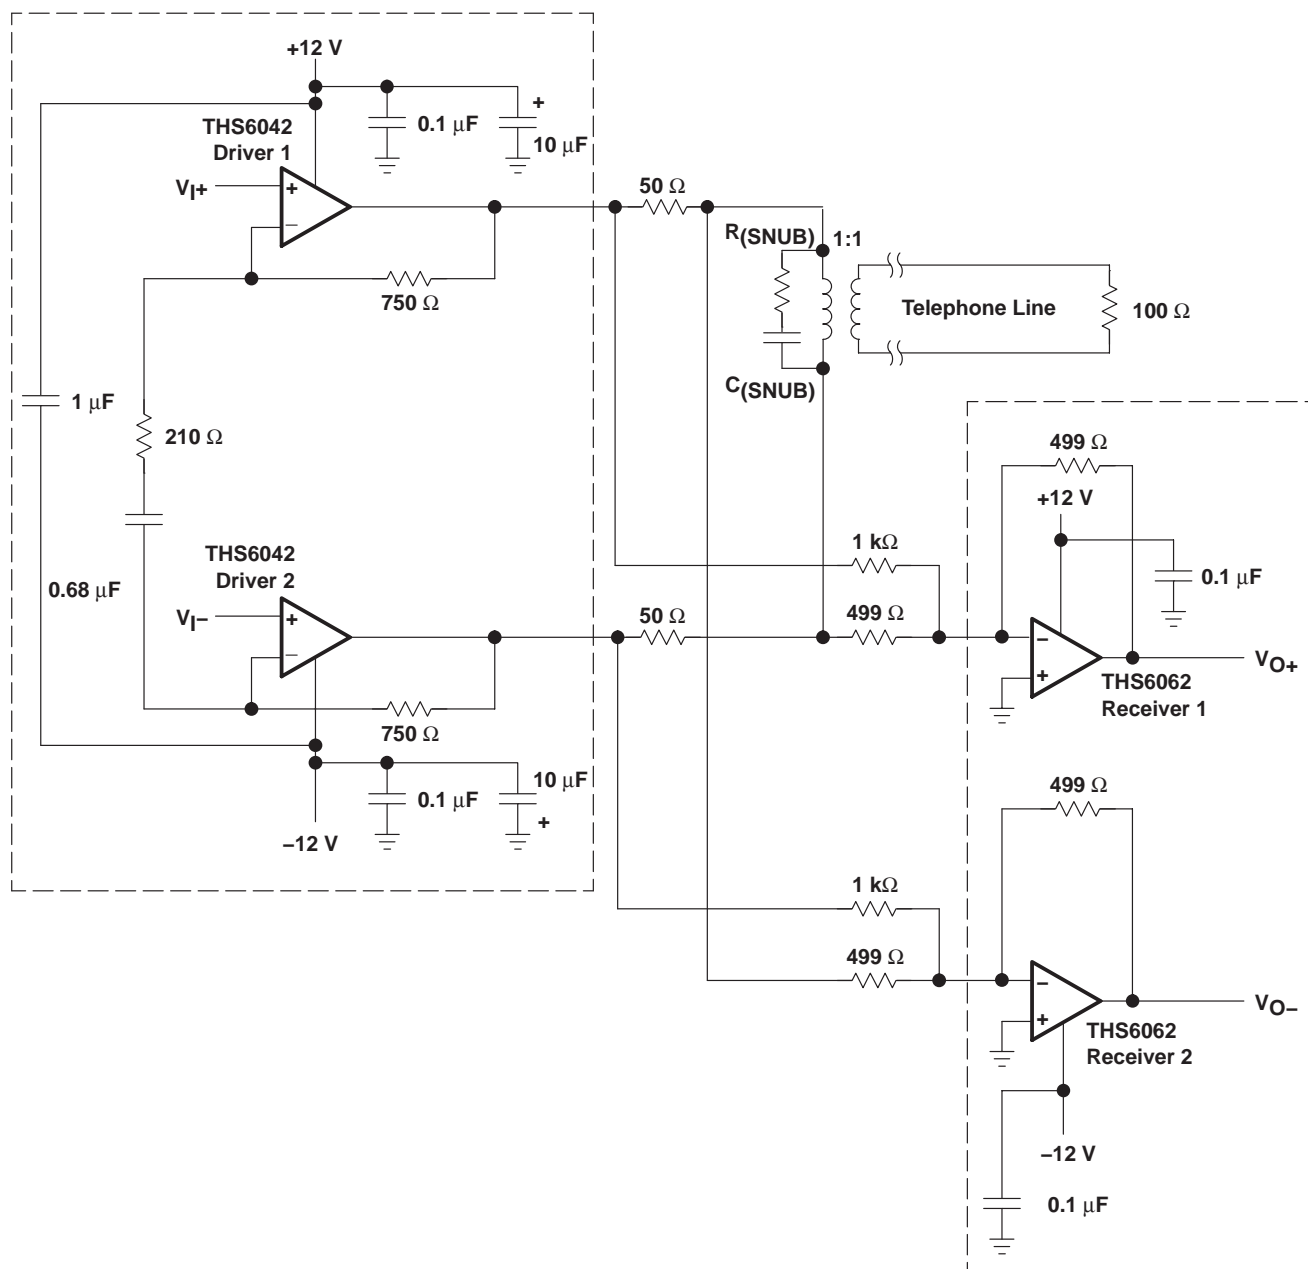

Figure 37. THS6042 ADSL Application With 1:1 Transformer Ratio
The THS6042/3 were primarily designed as line drivers for ADSL (asymmetrical digital subscriber line). The driver output stage has been sized to provide full ADSL power levels of 13 dBm onto the telephone lines. Although actual driver output peak voltages and currents vary with each particular ADSL application, the THS6042/3 are specified for a minimum full output current of 230 mA at  $\pm 6$  V and 300 mA at the full output voltage of  $\pm 12$  V. This performance meets the demanding needs of ADSL at the client side end of the telephone line. A typical ADSL schematic is shown in Figure 37.
- Differential power supply decoupling – The THS6042/3 were designed for driving low-impedance differential signals. The 50- $\Omega$  load which each amplifier drives causes large amounts of currents to flow from amplifier to amplifier. Power supply decoupling for differential current signals must be accounted for to ensure low distortion of the THS6042/3. By simply connecting a 0.1- $\mu$ F to 1- $\mu$ F ceramic capacitor from the +VCC pin to the –VCC pin, differential current loops will be minimized (see Figure 37). This will help keep the THS6042/3 operating at peak performance.